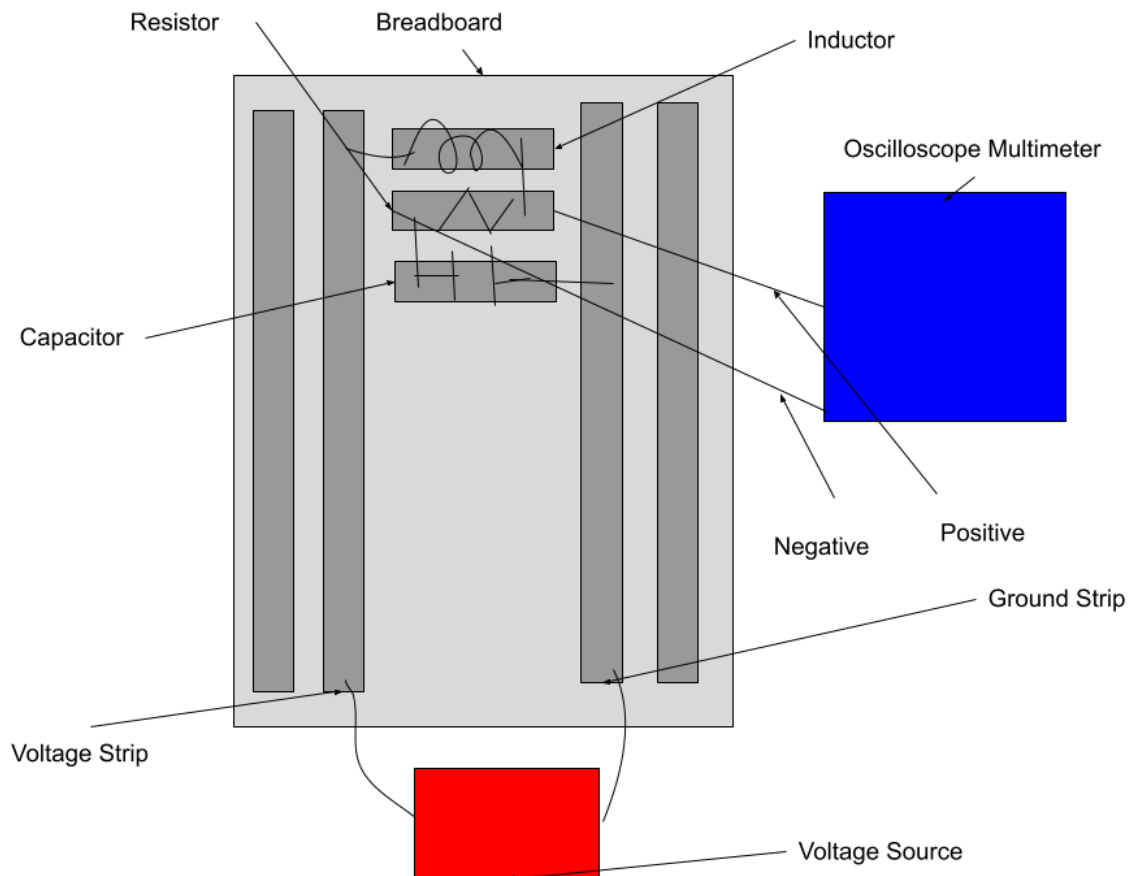

Figure 8: A breadboard prototype of an RLC circuit with a voltage source and oscilloscope connected.
9. Build the circuit on a breadboard. Once the components have arrived, construct the circuit prototype by placing each component on a breadboard with the correct connections. Please see Figure 8 for more information.
10. Use a multimeter to test the circuit. Once the breadboard prototype has been made, connect the AC power supply to the voltage strip and the ground strip. Then, connect the Oscilloscope multimeter to each component by placing the red lead on one side of the component and the black lead on the other side of the component. Finally, record the voltage and current for each part. Please see Figure 8 for more information.